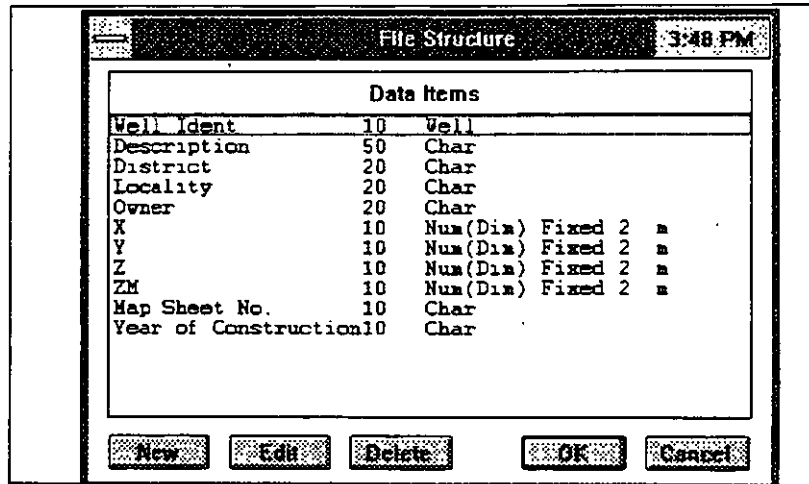

Figure 2-7
6. If you have selected the 'MasterData' file (data structure for master data application), the screen will display the dialogue box as shown in Figure 2-7. You may notice the list of data items, their types, length, number of decimal points, and eventually units. The
NOTE. The Well Ident is a special field, the name of which is used by the program to connect different parts of the data base. Actually, this entry is used to create a relational data base. You will notice that 'Well' is one of the data types, in addition to character, numeric (nondimensioned), numeric (dimensioned), data, time, and comment (see Figure 2-7). If you change the well identification in the chemistry data structure file, you must do the same in all other data structure files. Be very careful and ensure that you have done this in an absolutely identical way.